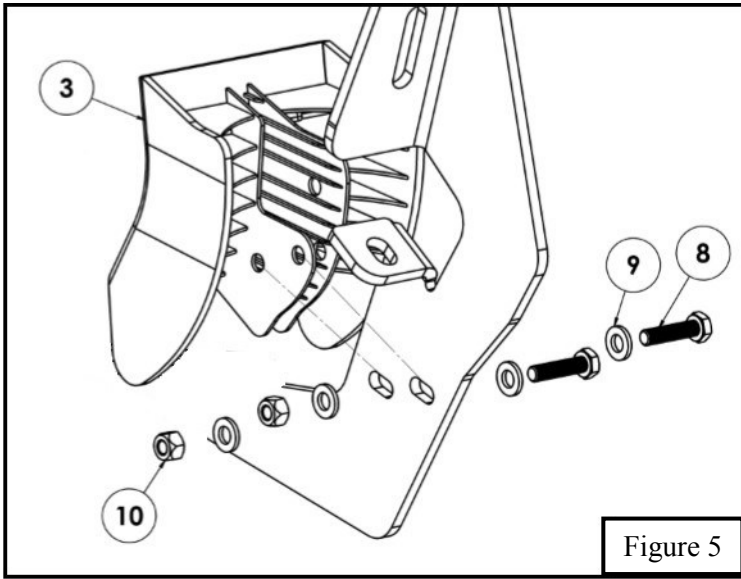

Figure 5
6. Locate (1) Plastic Bracket Cover (Item 3) and loosely secure it to the (6) brackets using the provided hardware: (2) M6 hex head bolt, (4) M6 flat washer, and (2) M6 nylon lock nut. Repeat for every bracket. See **Figure 5**.